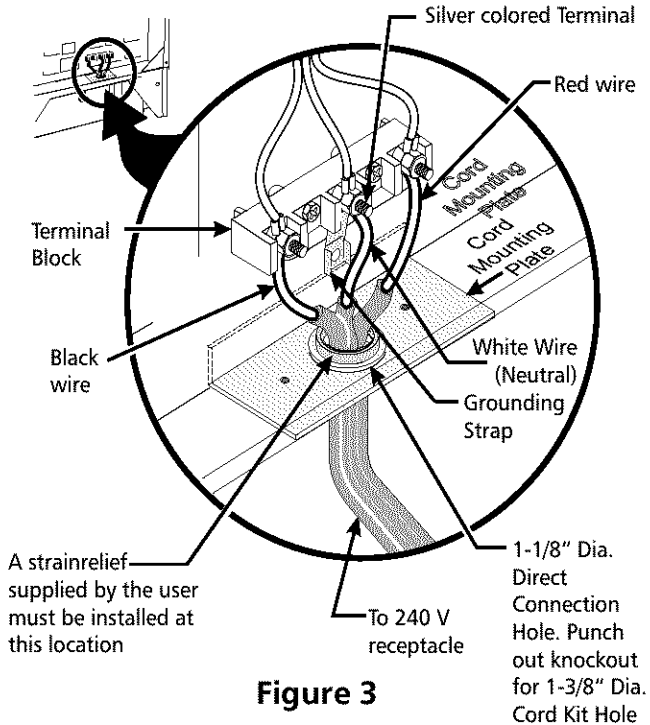

Figure 3
NOTE: Dual-fuel range is shipped from factory with 1 1/8" dia. hole as shown in figure 3. If a larger hole is required, punch out the knockout.
(The 3-conductor cord or cable must be replaced with a 4-conductor cord or cable where grounding through the neutral conductor is prohibited in new installations, mobile homes, recreational vehicles or in other areas where local codes do not permit neutral grounding) If local codes permit connection of the frame grounding conductor to the neutral wire of the copper power supply cord (see Figure 3):
- Replace the 3 nuts on the terminal block (see figure 3).